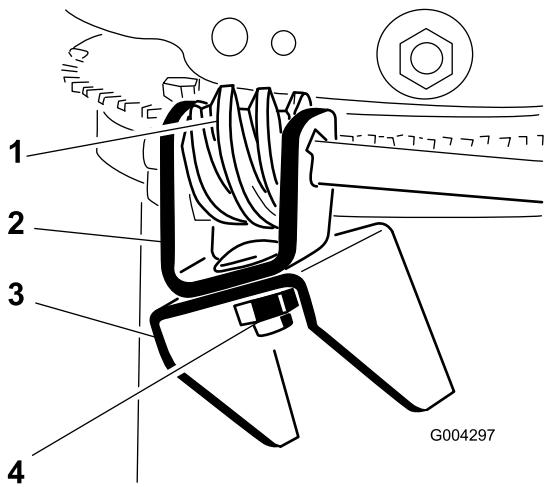

Figure 11
3. Apply No. 2 general purpose grease to the worm gear (Figure 11).
4. Loosely mount the worm gear and the bracket to the mounting flange with a bolt, a Belleville washer, and a locknut as shown in Figure 11.
5. Slide the worm gear into the teeth of the chute retaining ring and tighten the locknut (Figure 11).